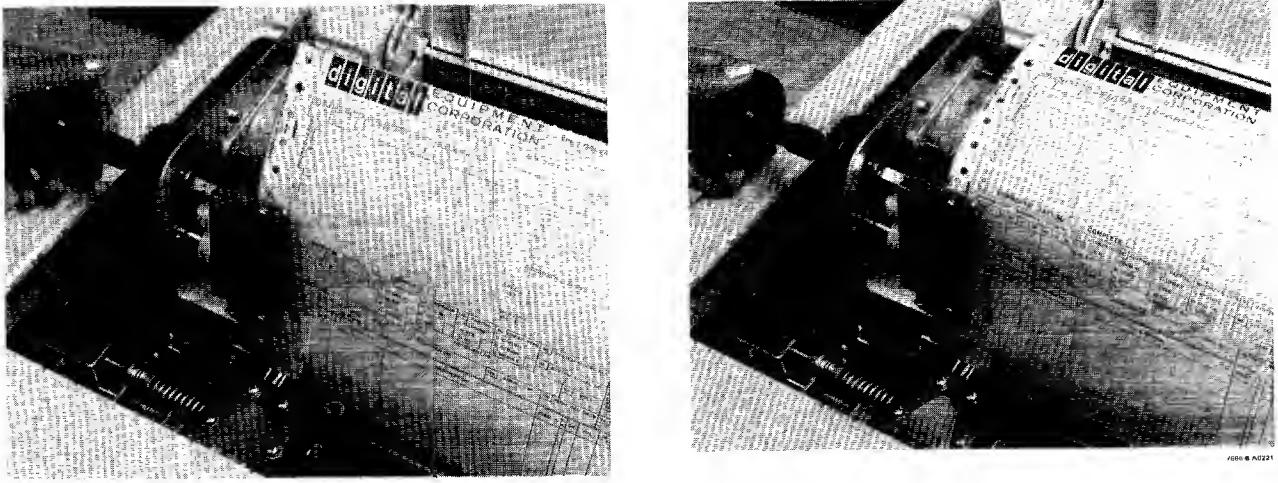

Figure 5-6 Impression Adjustment
5.2.4.4 Impression Adjustment (Figure 5-6)